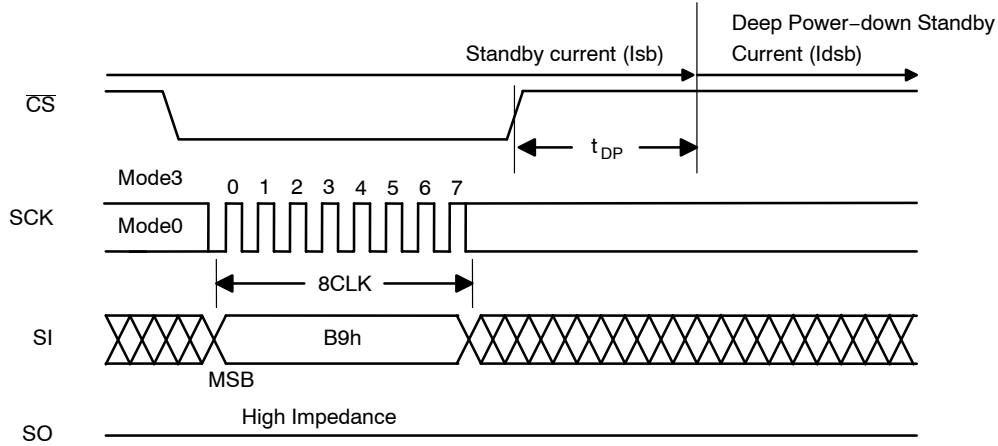

Figure 24. Deep Power-down (DP)
“Figure 24. Deep Power-down (DP)” shows the timing waveforms.